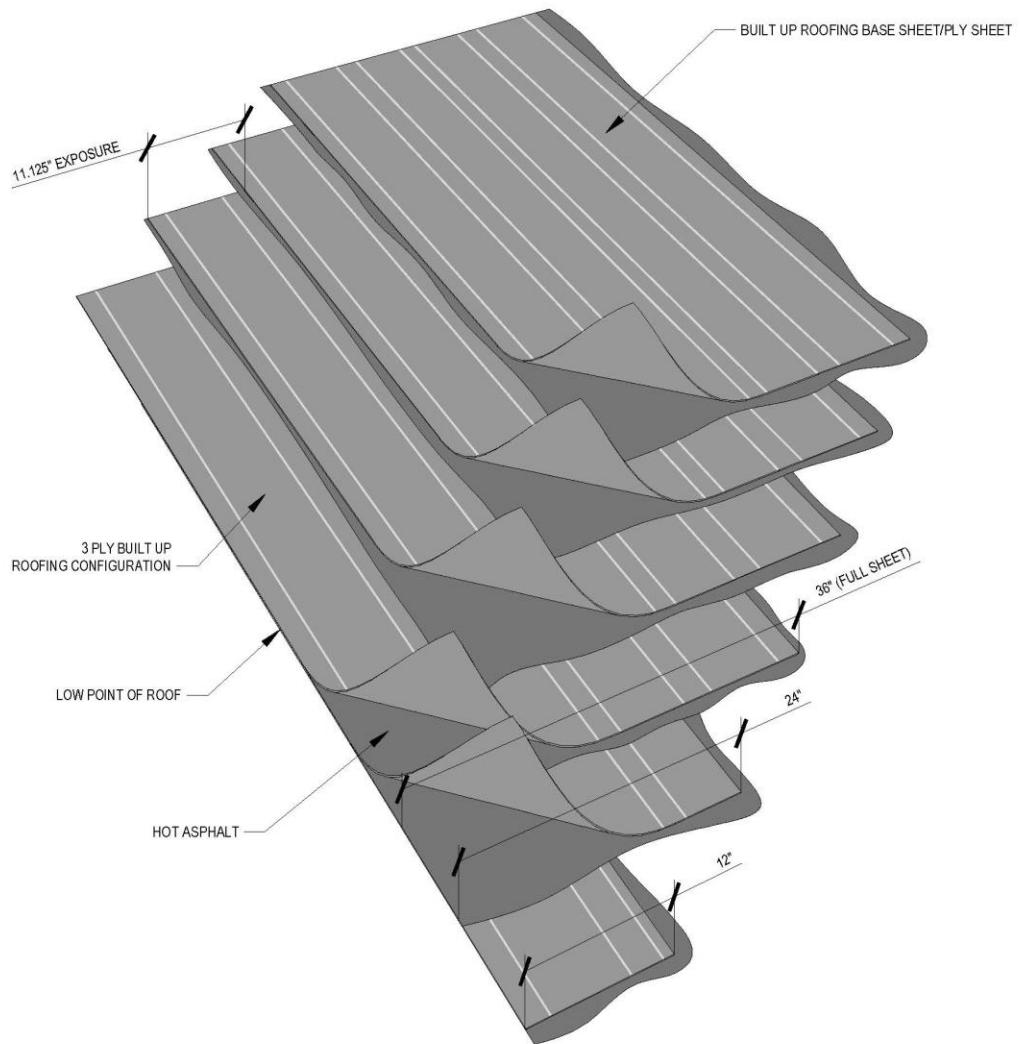

Figure 2.2b Three (3) Ply Built Up Roofing Configuration
- THREE (3) PLY BUILT-UP ROOFING APPLICATION (Refer to Figure 2.2b):